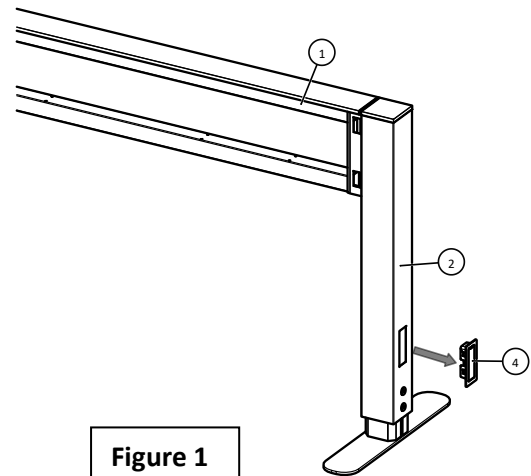

Figure 1
STEP 1: Remove the electrical cutout cover (4), as shown in Figure 1.